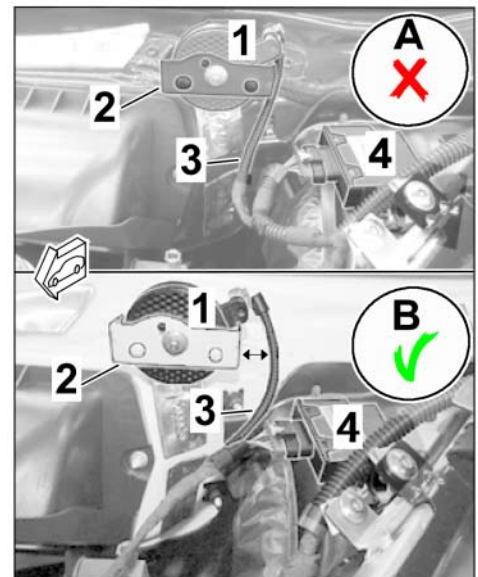

Figure 9
2.3.1 Connect electric plug connections for engine noise pulse sender (2-pin) and for engine noise control unit (6-pin) (\Rightarrow Figure 9).